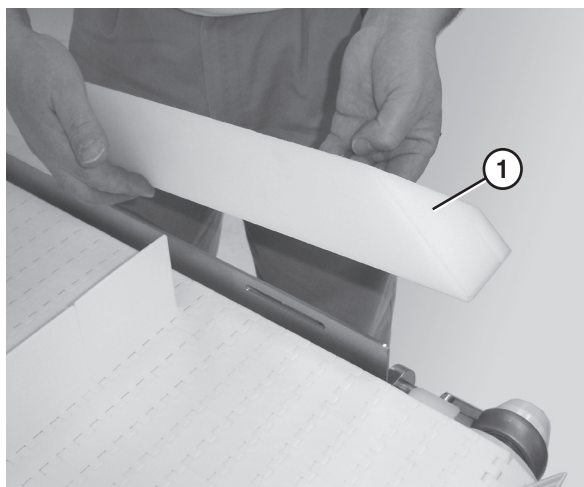

Figure 58
2. Remove the guide (**Figure 58, item 1**).